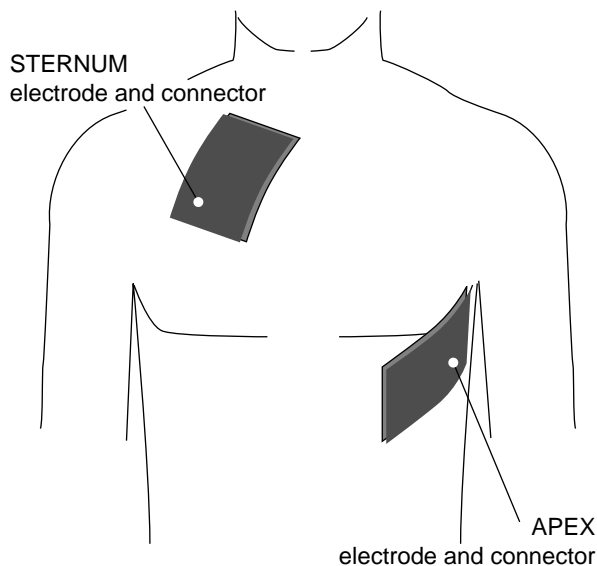

Figure 4-7. Defibrillation pad application points (anterior - anterior)
- APEX: left axillary line at the level of the 5th intercostal space (Figure 4-7).
- Press the pads carefully on the appropriate sites, observing the APEX and STERNUM labels (Figure 4-7).